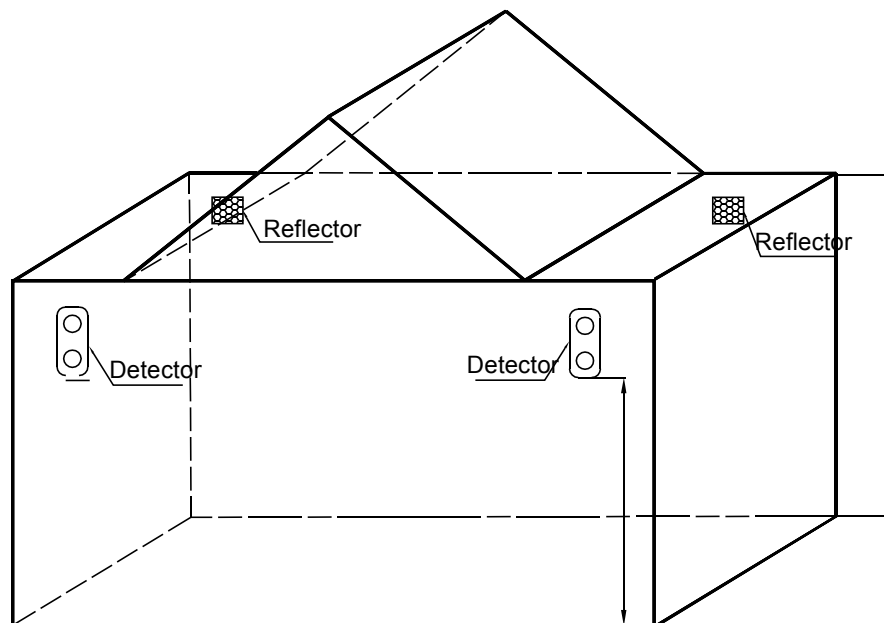

Fig. 6 Mounting
- c) When space height is more than 8m, the roof is normally gabled without ceiling, the detector and reflector should be mounted on the two facing walls about 8m from the floor, ensuring that the vertical distance between the detector/reflector and top of the building is more than 0.5m, see Fig. 6. The distance should be 7m from the detector to the floor.